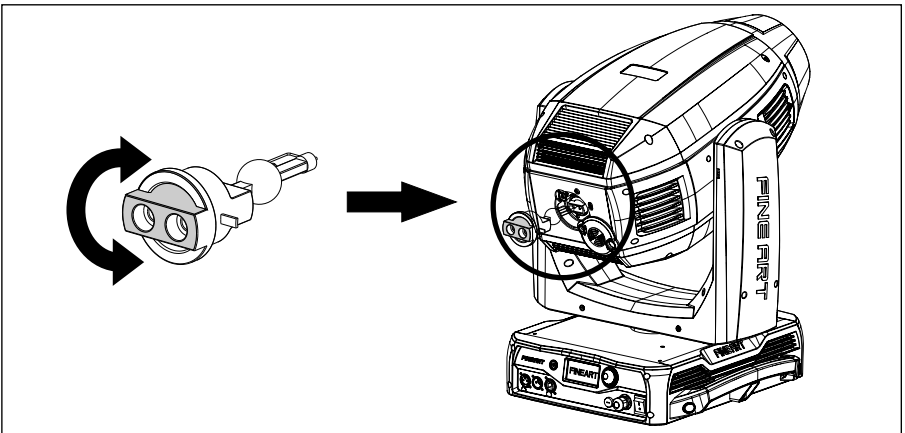

Fig.6.2-1
4. The lamp must be inserted in place. Make sure the supply connection to the lamp base contacts are adequately wired. Then fasten the lamp-access casing and screw it up, shown as Fig.6.2-1.